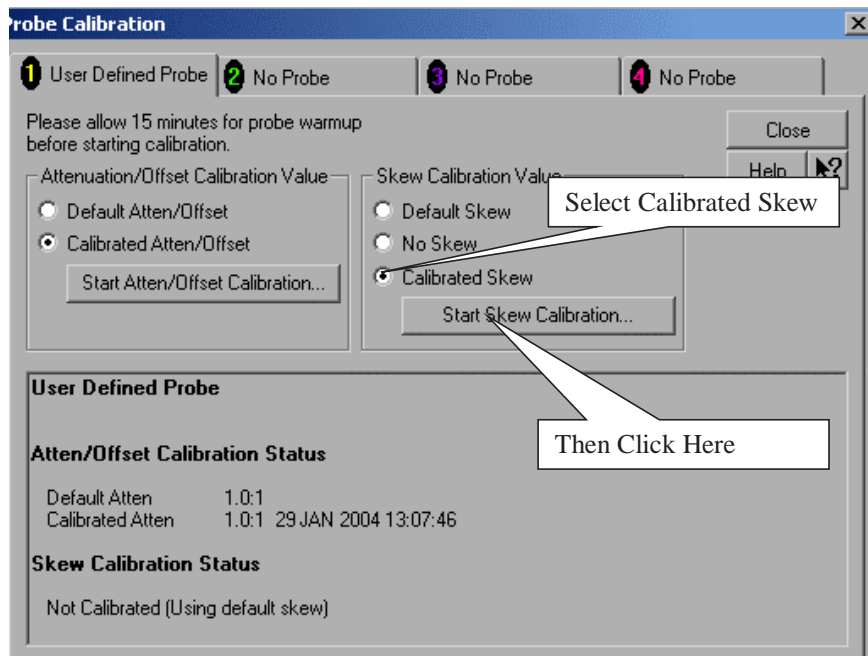

Figure 296 Probe Calibration Window.
- 8 Referring to Figure 296 below, perform the following steps: